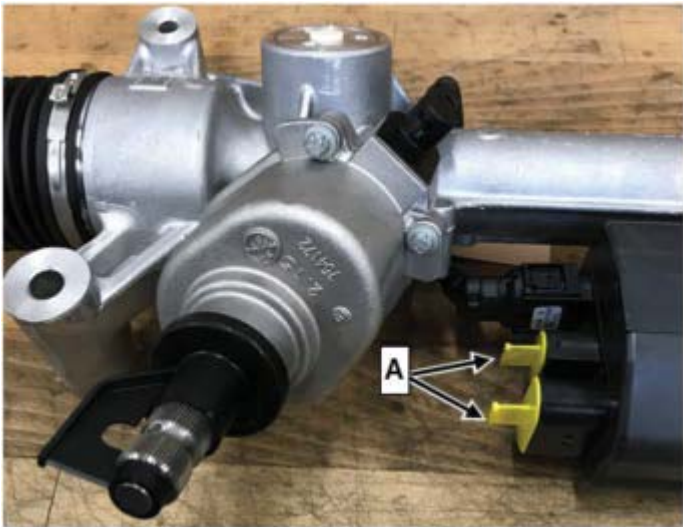

Figure 1
**i** To prevent dirt from entering the connector couplings or damage from ESD (electrostatic discharge), it is **absolutely essential** to fit the yellow dust caps (**A, Figure 1**) on the connector couplings of the steering gear to be returned. The **caps** from the **new** steering gear are to be used for this.